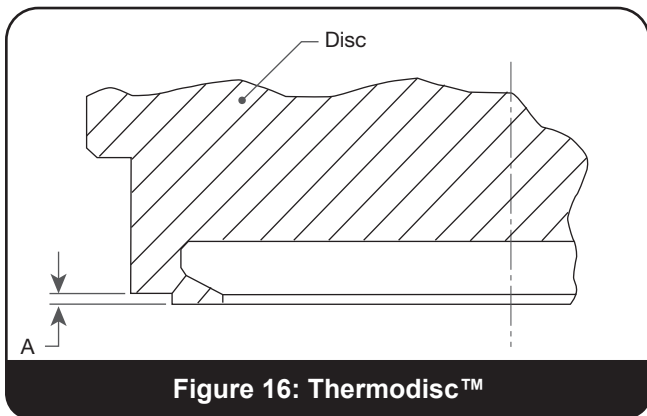

Figure 16: Thermodisc™
Thermodisc™: because of the critical shape of the disc, because of the critical shape of the disc, Baker Hughes does not recommend machining of the disc. However, careful lapping may be done so long as dimensions in Figure 16 and Table 1 are maintained.
**Thermodisc™** - If surface defects cannot be lapped out, the disc must be replaced. If after lapping, "A" in (Figure 16 in Section XIII) is less than "A min." (Table 1), replace the disc.